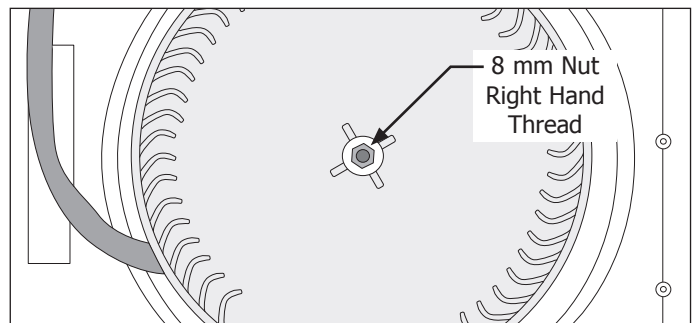

Figure 4-119.
9. Use an 8mm socket or wrench and remove the nut securing the blower to the fan motor shaft. Remove the lock washer and washer from shaft. Pull blower from motor shaft. (See Figure 4-119)